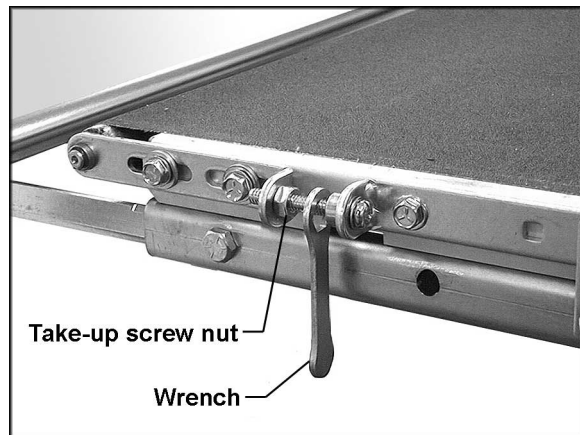

Figure 31
Tension. To adjust the tension of the conveyor belt, first adjust the take-up screw nut (Figure 31) using the attached wrench. Do this on both sides of the conveyor to obtain approximately equal tension on both sides of the belt when taut. Insufficient belt tension will cause slippage of conveyor belt on the drive roller during sanding operation; the conveyor belt is too loose if it can be stopped by hand pressure applied directly to the top of the conveyor belt. Excessive belt tension can result in bent rollers, bent brackets, and/or premature wearing of the bushings or belt.
2. Loosen the conveyor take-up screw nuts (see Figure 31) to relieve belt tension, and slide the driven roller fully inward.